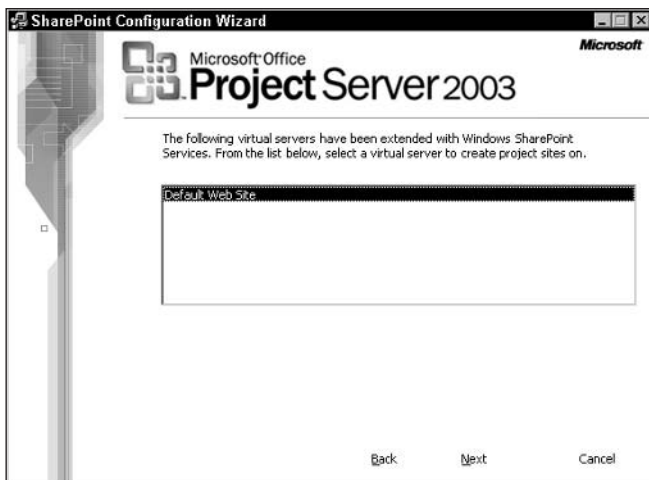

Figure 18-21: Select the default WSS Web site.
5. On the virtual servers page (see Figure 18-21), click Default Web Site and click Next.